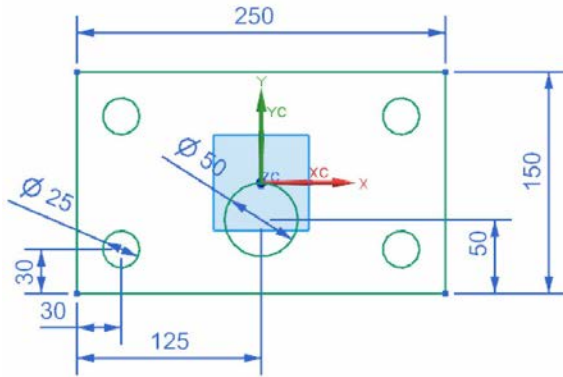

Figure 9-74 The sketch of the base feature
- Create the base feature, which is the Bottom Plate, refer to Figures 9-74 and 9-75.
6. Create sketch for the Bottom Plate on the XC-YC plane, as shown in Figure 9-74. Next, exit the sketch.